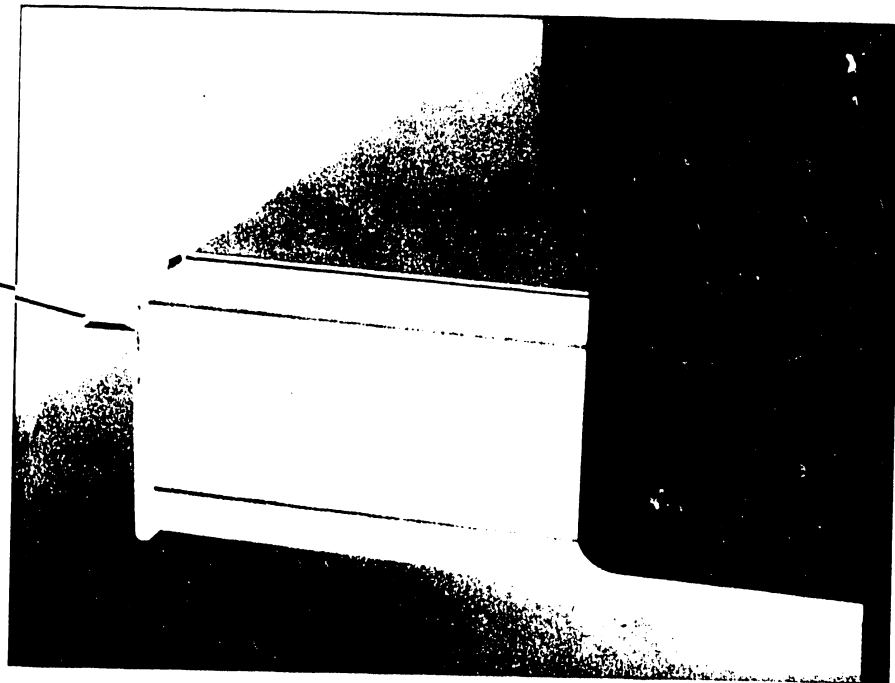

FIGURE 21
- (c) Remove stop bracket located at end of X axis runner (See Fig 21).